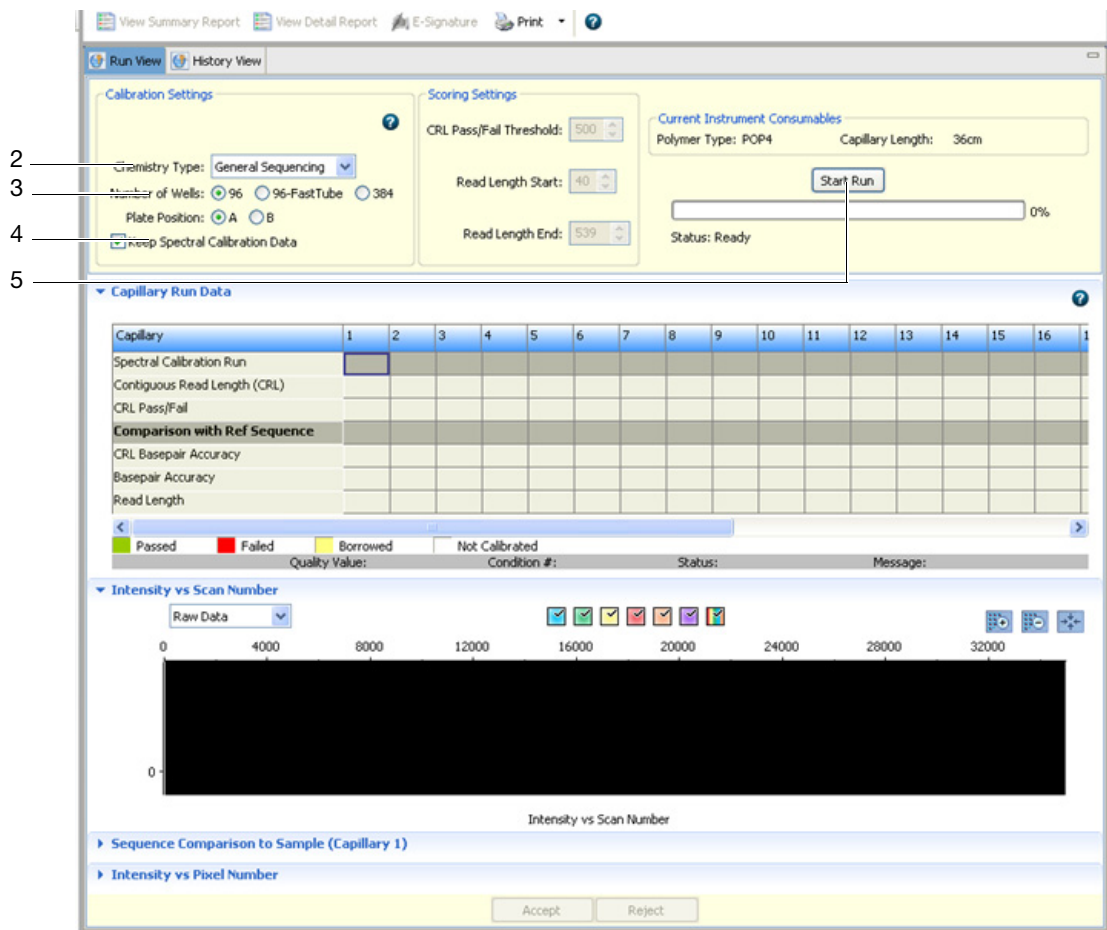

Figure 9 Sequencing Install Standard screen
1. Access the sequencing install standard screen (Figure 9 on page 122): Select **Maintenance**, then select **Sequencing Install Standard** in the navigation pane.